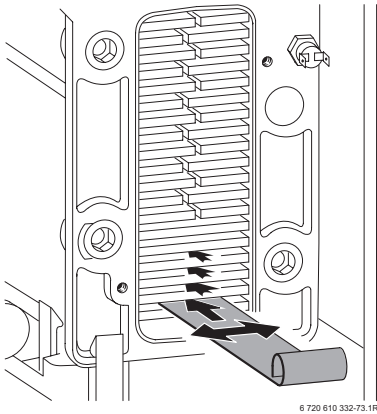

Fig. 46
- Loosen any deposits in the heat exchanger from top to bottom using the cleaning blade. Refer to fig. 46.